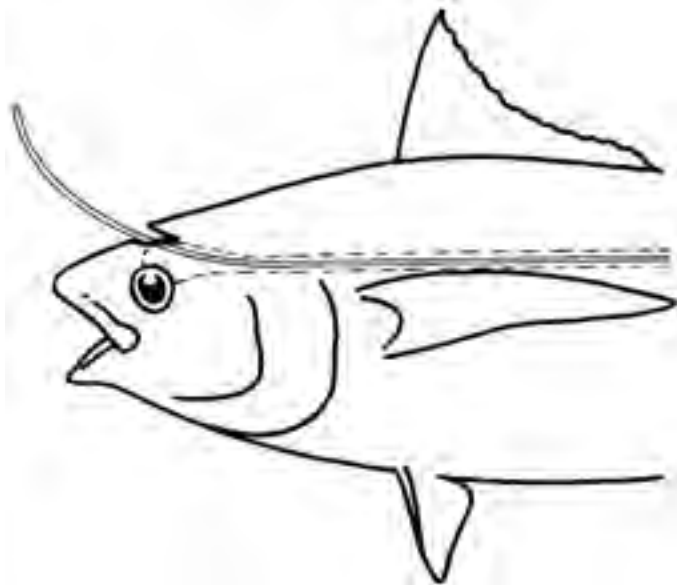

Fig. 14 Push a length of monofilament nylon into the neural canal.
- Insert a length of sterilised monofilament nylon or stainless steel wire into the brain and push it as far as possible into the neural canal to destroy the spinal cord (Fig 14). Take it out and compare with the length of the fish to ensure that it penetrated most of the length of the fish.